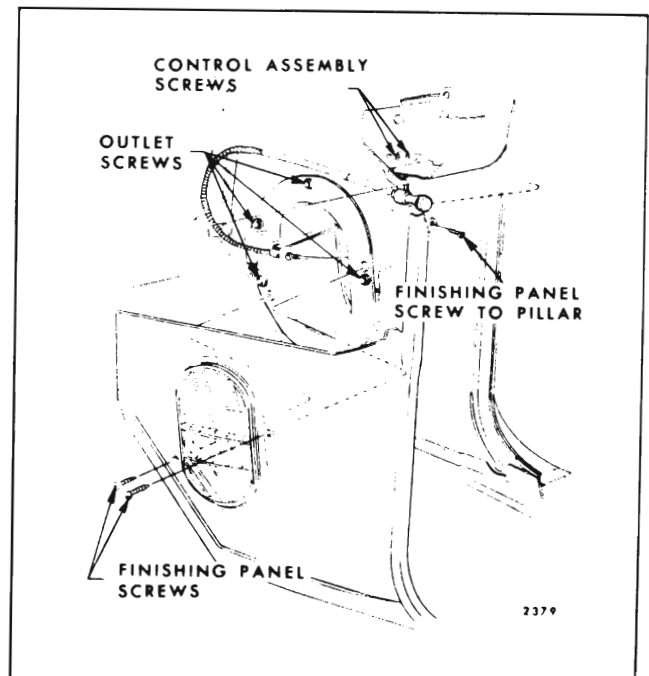

Fig. 5-1—Shroud Side Finishing Panel and Shroud Side Air Outlet Duct Assembly - "A-B-C-D-E" Styles
1. Remove sill plate and screws securing finishing panel and grille to outlet (Fig. 5-1).
2. Removing finishing panel to hinge pillar attaching screw (Fig. 5-1).
3. Remove screws securing outlet assembly to shroud panel and remove outlet assembly (Fig. 5-1).
4. Remove screws securing control assembly to instrument panel (Fig. 5-1) and remove control assembly.